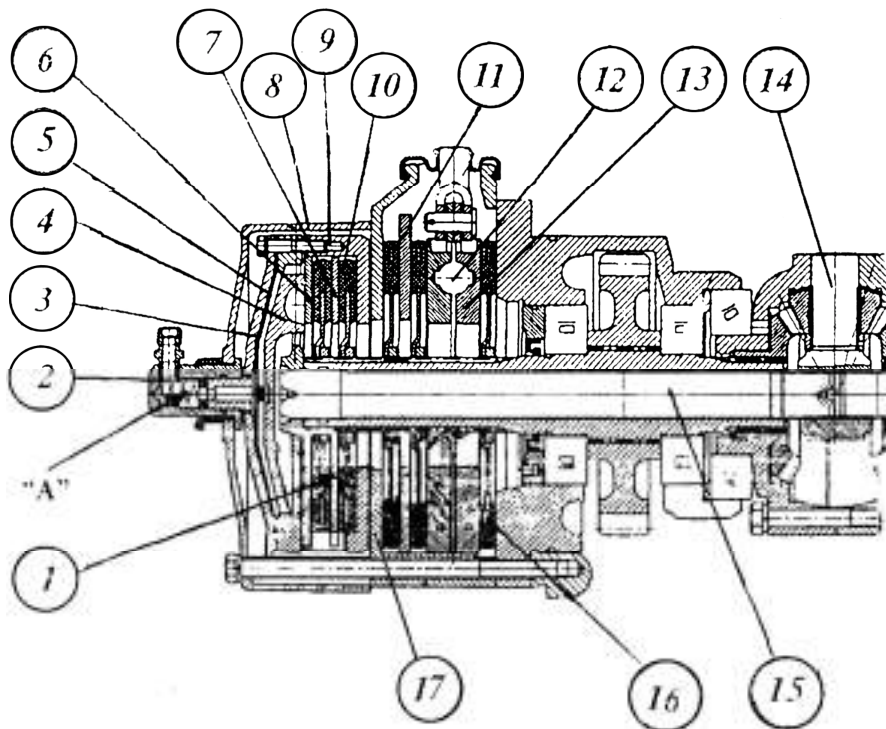

Fig. E-17. Differential lock clutch:
The differential of the closed lockable bevel-pinion type consists of the case (22) and cover (16) fastened together by means of the bolts (32), four differential pinions (17) together with spherical washers (19) and two thrust washers (14). The differential case is installed as an assembly in the rear-axle housing in two roller bearings (23). To lock the differential, the hydraulically-controlled friction multiple-disk clutch (Fig. E-17) which interlocks the cross and the differential pinions with the left-hand half-axle gear of the differential.
The multiple-disk hydraulically controlled differential lock clutch (1) (Fig. E-17) is located in casing (8) which is bolted to the rear axle housing through the housing of the left-hand three-disk brake and the bearing body. The three-disk dry service
clutch (Fig. E-17) and an electro-hydraulic control system. The latter ensures two operation modes: "automatic" and "forced".